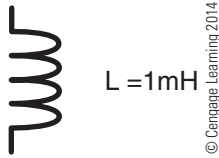

Figure 3-18 Inductor schematic symbol.
Wire that is formed into a spiral or coil is referred to as an **inductor**. The symbol for an inductor is a series of loops of wire, as shown in **Figure 3-18**. Inductors are rated in units known as the henry (H). The number of henries that an inductor has depends on the number of loops making up the coil, the material in